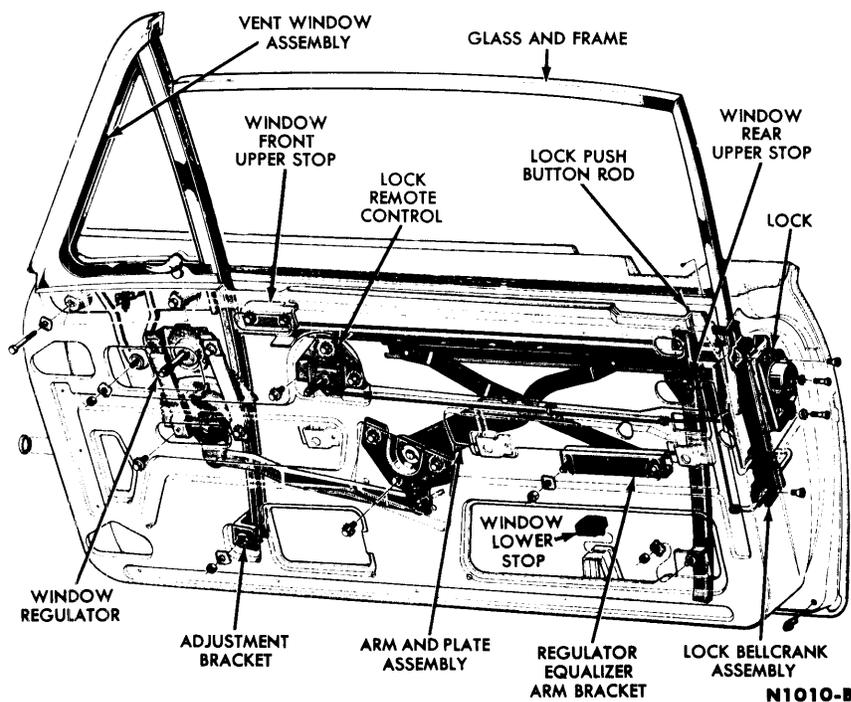

FIG. 2—Door Lock and Window Mechanism
The door locking mechanism (Fig. 2) consists of the door lock and rotor, lock cylinder, inside and outside handles, striker plate, and the linkage connecting these parts. Improperly aligned doors cause the major portion of lock failures by putting excessive strain on the striker plate and rotor. **Do not attempt to correct door misalignment with a striker plate adjustment.**
3. Remove the screws retaining the lock to the door panel (Fig. 2). Disconnect the door lock cylinder link at the lock and then remove the lock and bellcrank assembly, with the links attached, from the door.
1. Raise the window to the closed position, remove the door trim panel, and loosen the plastic water shield enough to reveal the lower access hole and the remote control rod access hole (Fig. 2).